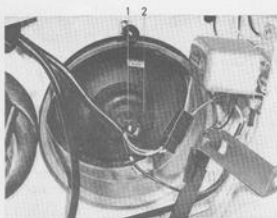

Fig. 3-113. Headlight, rear side
1. Disconnect the cables by pulling out the connection contact (1, Fig. 3-113), and remove the rubber cover underneath.